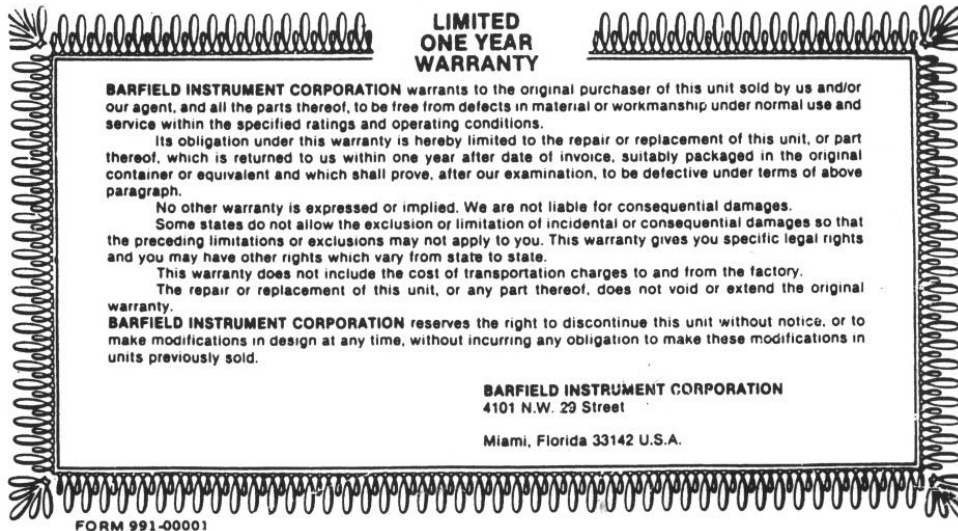

Figure 2 Limited Warranty Statement Card
- B. The Limited Warranty Statement Card, (Figure 2), which lists the manufacturer's obligation to the original purchaser.